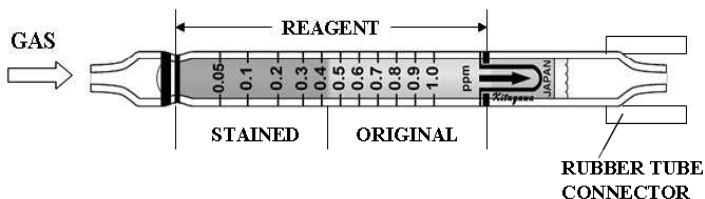

Fig.1
- ① Break both ends of the detector tube with attached ampule cutter.
- ② Connect the detector tube into the rubber tube connector of the Model S-20 series air sampler as shown in Fig. 1 (Arrow mark shall point to the sampler.), and fix it into the detector tube holder.
- ③ Turn ON power of the air sampler.
- ④ In accordance with instruction manual of each air sampler, preset the TIMER at 10 minutes and adjust the flow rate at 250mL/min.
- ⑤ After completion of sampling (10 minutes), remove the detector tube from the tube holder and read the scale at the maximum point of a stained layer.